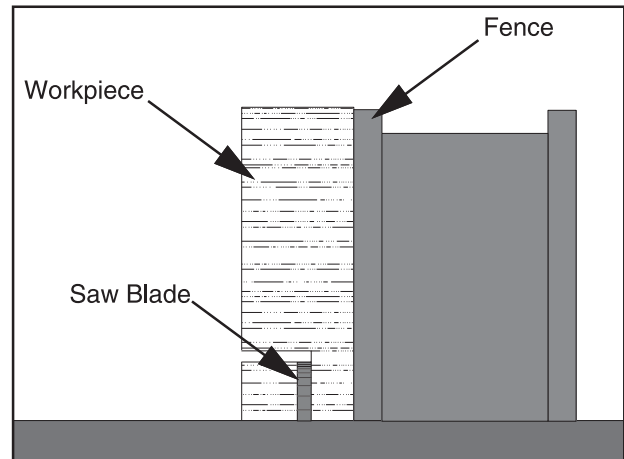

Figure 52. Second cut to create a rabbet.
8. Stand the workpiece on edge as shown in **Figure 52**.